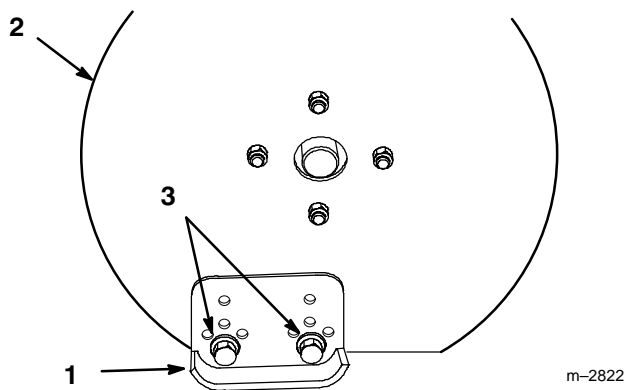

Figure 8
2. Remove the nuts and bolts securing the skids to the housing (Fig. 8).
3. Position the skids equally on both sides, to obtain a level scraping action, and secure the skids with the nuts and bolts (Fig. 8).